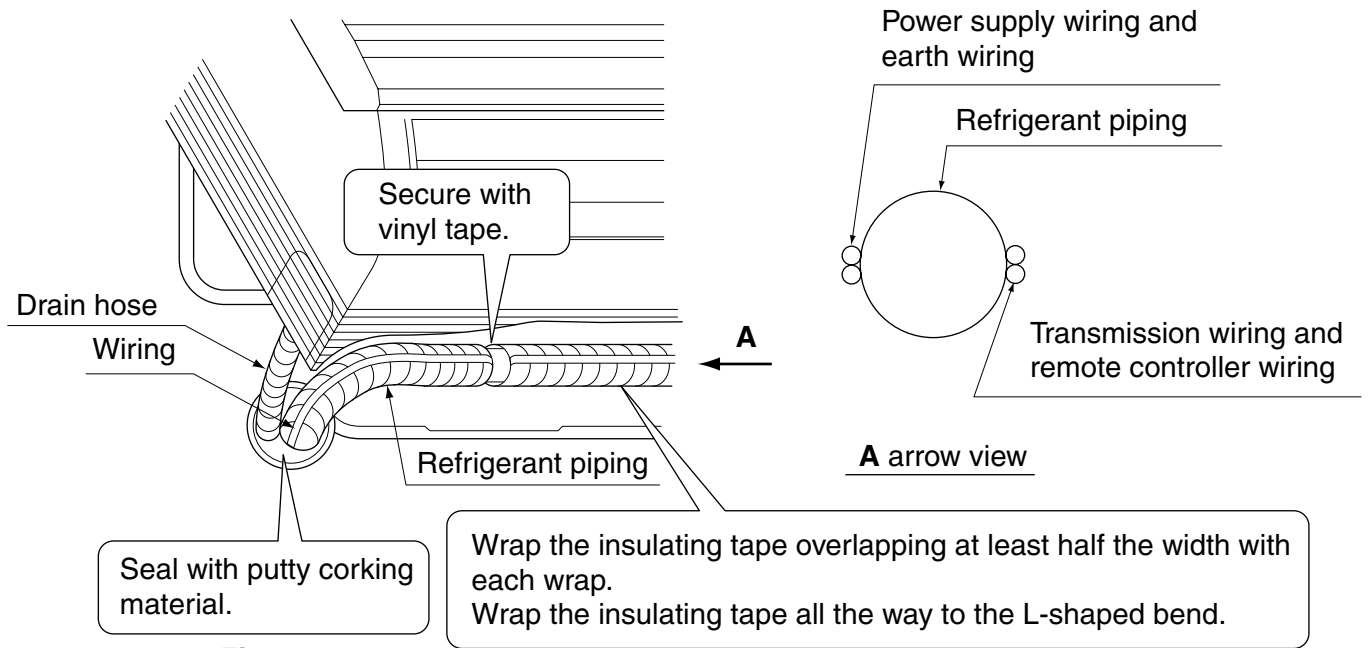

Fig. 10
(7) Pass power supply wiring, transmission wiring, earth wiring, and remote controller wiring through the wiring guide in through the back of the indoor unit and to the front.
(8) Connect the piping. (See “5.REFRIGERANT PIPING WORK” and Fig. 10)